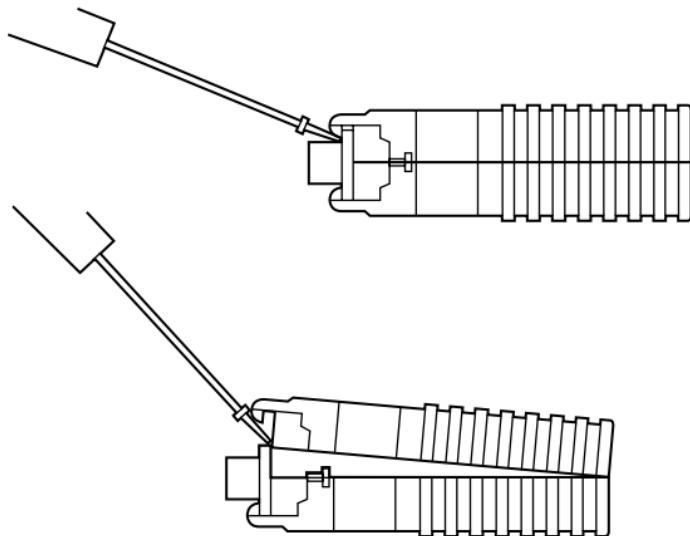

Figure 4-3. Opening the Sync SHM-NPR.
1. Open the unit by gently inserting a screwdriver between the DB25 connector and the lip of the plastic case (see Figure 4-3). You don't have to worry about breaking the plastic, but be careful not to bend the D-sub connector.